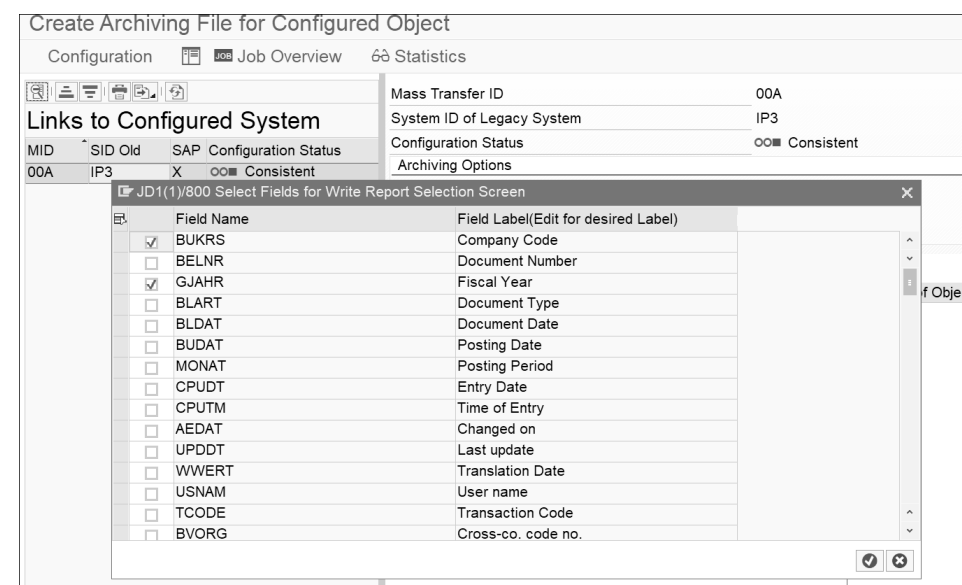

Figure 8.24 Generate Archive Write Program: Determining Fields for Selections
5. You'll now see a popup window with all fields from the parent (leading) table (see Figure 8.24). Select the fields that you want to have as selection parameters in the selection screen of the archive write program. Then confirm the popup window.